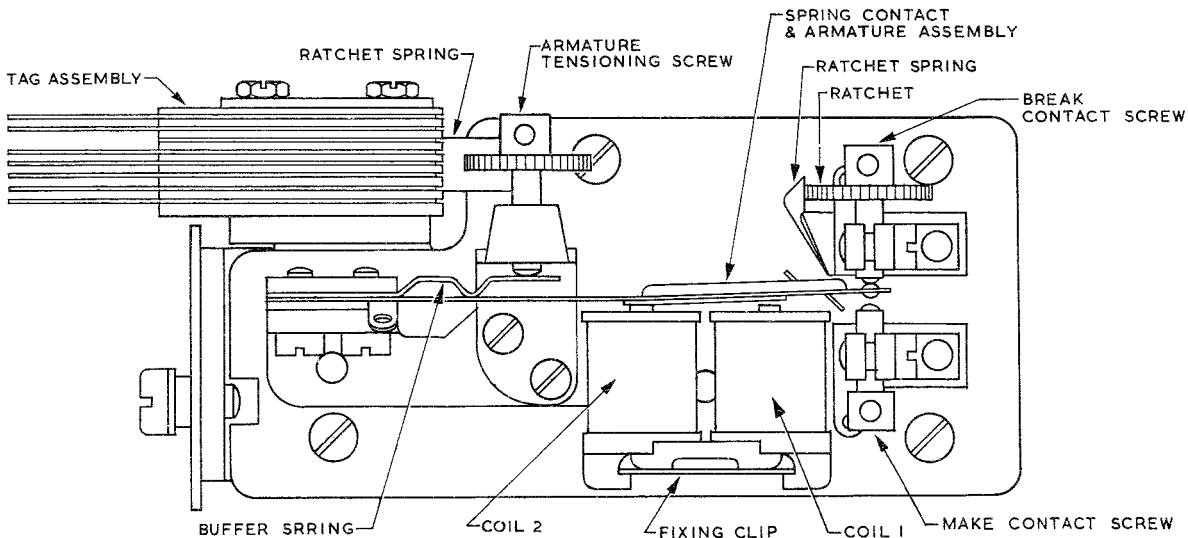

FIG. 1. HIGH SPEED RELAY TYPE 3/402... .
- 1.2 The two relay types are almost identical, the only differences are concerned with the coil; 3/401..., has a single coil and 3/402..., has two coils and a larger tag assembly. Fig. 1 shows the plan view of 3/402; for details refer Drawing CE.60077 and CE.60078.